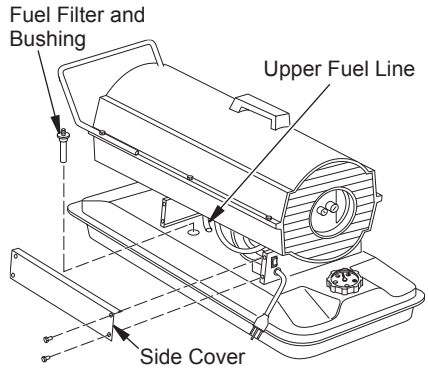

Figure 19 - Fuel Filter Removal, 40/55/70 Models
3. Pull upper fuel line off fuel filter neck (see Figure 19 or 20).
3. Remove 4 side cover screws with a 5/16" nut driver. Remove side cover (see Figures 19 or 20, page 11).
12. Replace side cover (see Figures 19 or 20, page 11).
2. Remove side cover screws using 5/16" nut driver (see Figure 19 or 20, page 11).
7. Replace side cover (see Figures 19 or 20, page 11).